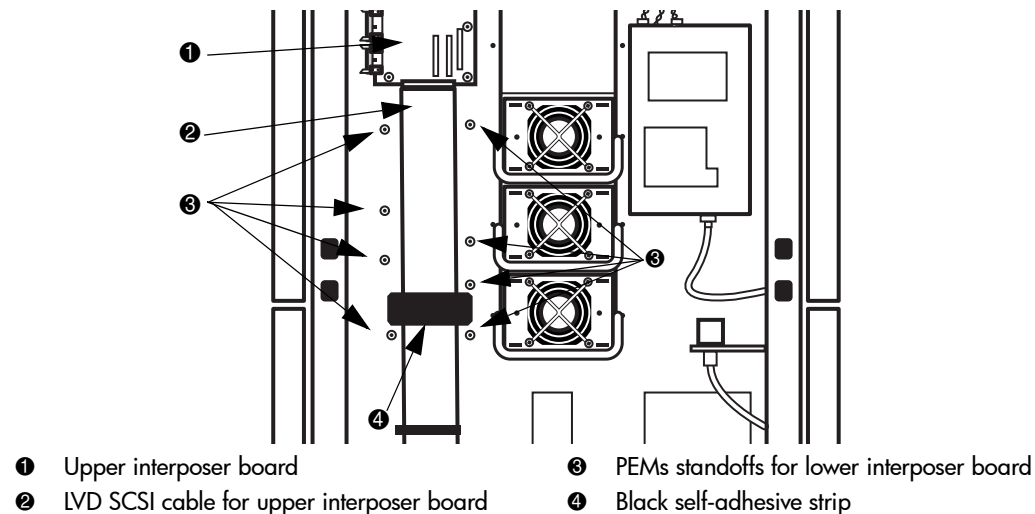

Figure 6: Secure the upper interposer LVD SCSI cable to the jukebox frame
- d. Connect the appropriate LVD SCSI cable from the buffer board to the the upper interposer board (see Figure 6).
- g. Use the black self-adhesive strip to secure the LVD SCSI cable to the jukebox frame between the bottom two sets of PEMs standoffs for the lower interposer board (see Figure 6).
- c. Connect the appropriate LVD SCSI cable from the buffer board to the lower interposer board (see Figure 6).